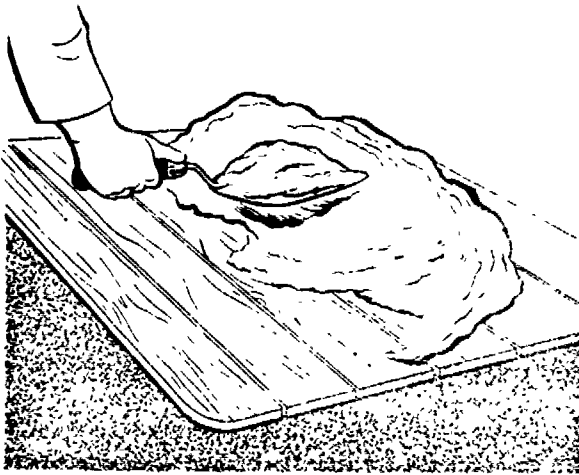

FIGURE 2 PROPER WAY TO PICK UP MORTAR
3. Manipulate the trowel to the mortar to ... and ... the mortar around on the mortar board. ... your clothing and try not to ... Figure 2, page 6.